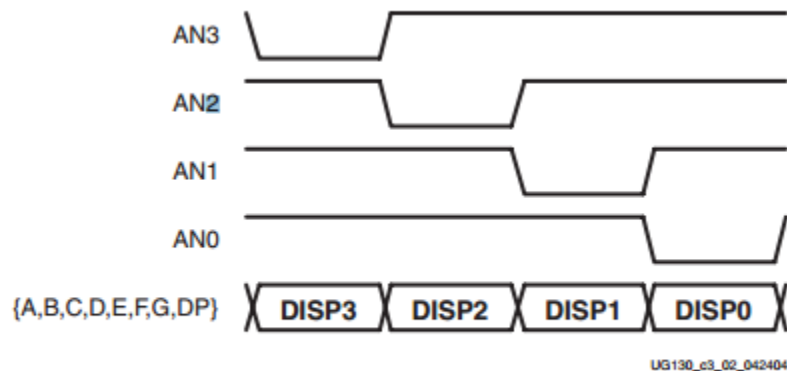

Figure 3-2: Drive Anode Input Low to Light an Individual Character
“The LED control signals are time-multiplexed to display data on all four characters, as shown in Figure 3-2. Present the value to be displayed on the segment control inputs and select the specified character by driving the associated anode control signal Low. Through persistence of vision, the human brain perceives that all four characters appear simultaneously, similar to the way the brain perceives a TV display.” (17).